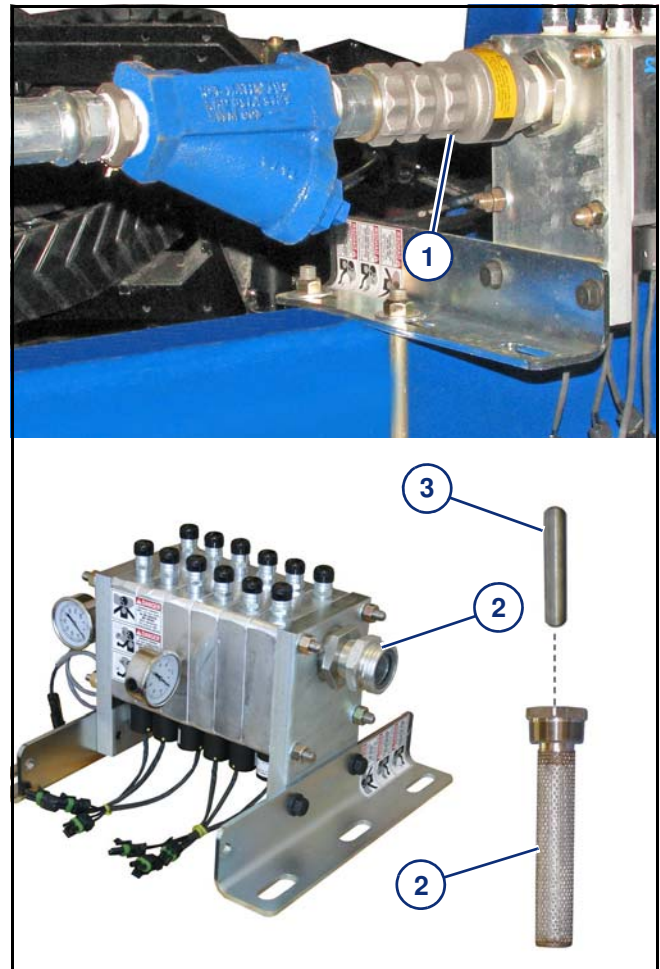

Figure 20
**[Figure 20]** - Disconnect the inlet plumbing (1) from the N-Ject® manifold.